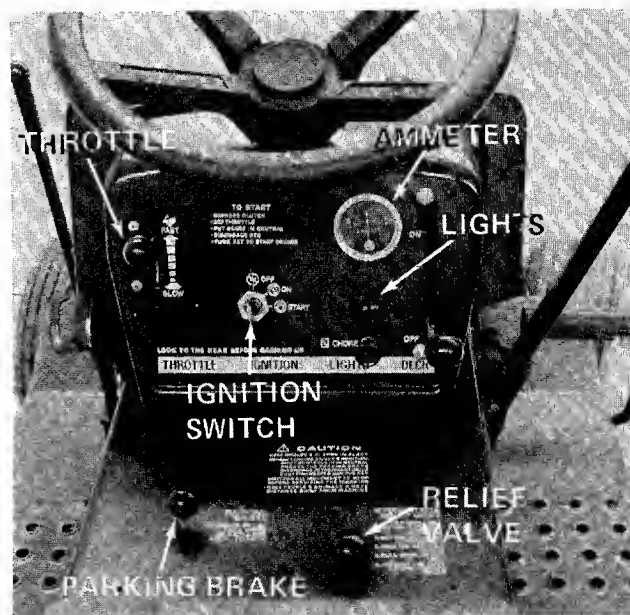

FIGURE 5.
The ignition switch is located in the center of the dashboard. Turn the key to the START position to start the engine. When the engine is running, leave the key in the ON position. To stop the engine, turn the key to the OFF position. See figure 5.
The throttle control is located on the left side of the dashboard and is used to regulate the engine speed. See figure 5. The engine should be operated from $\frac{3}{4}$ to full throttle (FAST) when operating any equipment that uses the tractor engine as a source of power such as the mowing deck, snow thrower or rotary tiller. See figure 5.
The head lamps are operated by pushing the light switch located on the dashboard. The head lamps will only operate when the engine is running. See figure 5.
The maximum charging rate is 3 amps. The head lamps operate directly from the engine alternator and do not register on the ammeter. See figure 5.
To set the parking brake, depress the clutch-brake pedal and pull up the parking brake knob. It will stay in the raised position. To release the parking brake, depress and release the clutch-brake pedal. See figures 5 and 8.
To move the lawn tractor without the engine running, pull up the relief valve and lock it in the raised position. This allows the rear wheels to roll. See figure 5.
1. Unscrew the parking brake and relief valve knobs. See figure 5.